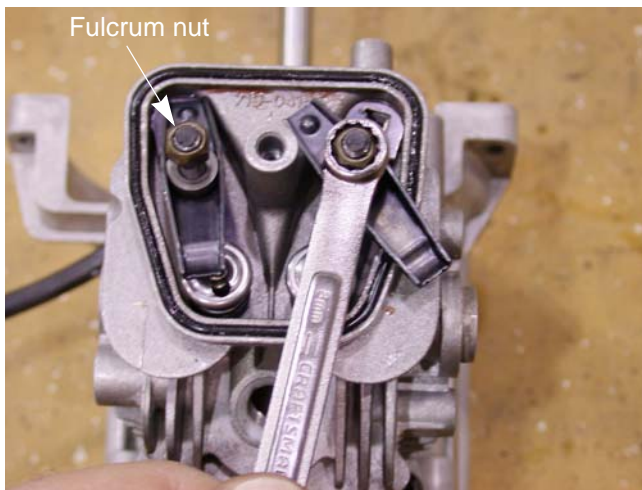

Figure 8.11
21. Pivot the rocker arms away from the valves and remove the push rods. See Figure 8.11.